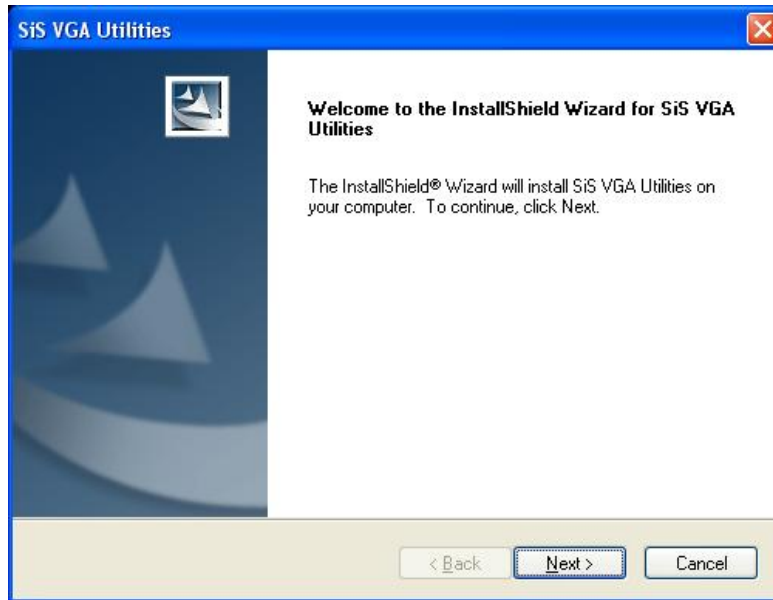

Figure 6-21: VGA Utilities Welcome Screen
- Step 1:** Insert the Utility CD that came with the motherboard into the system CD drive. Navigate to the **Chipset_VGA 3.72logo** directory and double-click the **setup.exe** installation file to initiate the **InstallShield Wizard (Figure 6-21)**.